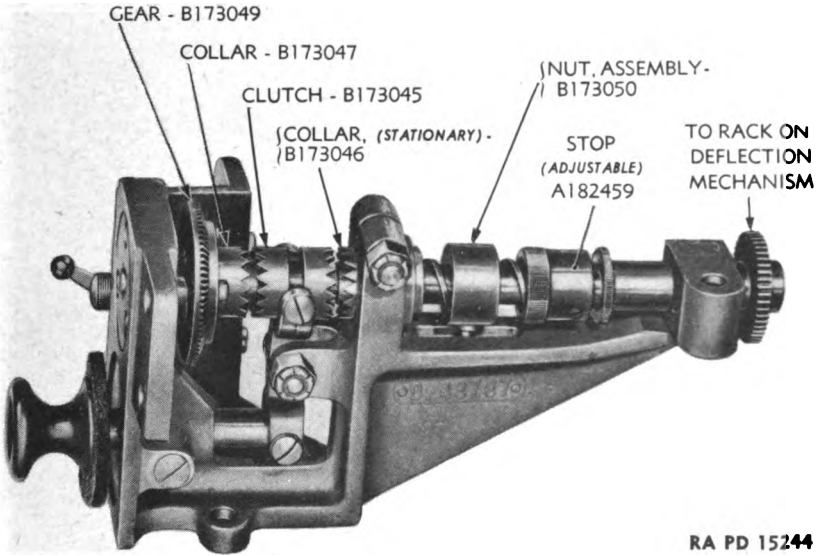

Figure 17 — Rate Setting Clutch Assembly D43785
d. **Rate Setting Clutch Assembly** (figs. 17 and 18). This clutch normally connects the handwheel drive shaft assembly to the movable rack of the deflection mechanism. When the clutch knob is pulled out, the rate setting shaft is locked and is disconnected from the handwheel drive shaft to permit manual tracking. If the mechanism is set near zero deflection before the clutch handle is pulled out, the teeth of the clutch and the fixed collar will move the deflection to exact zero if the fixed collar has been correctly set. This assembly also includes a mechanical stop actuated by a coarse screw thread on the rate setting shaft, which limits the maximum rate set into the deflection mechanism. The azimuth power switch is also mounted